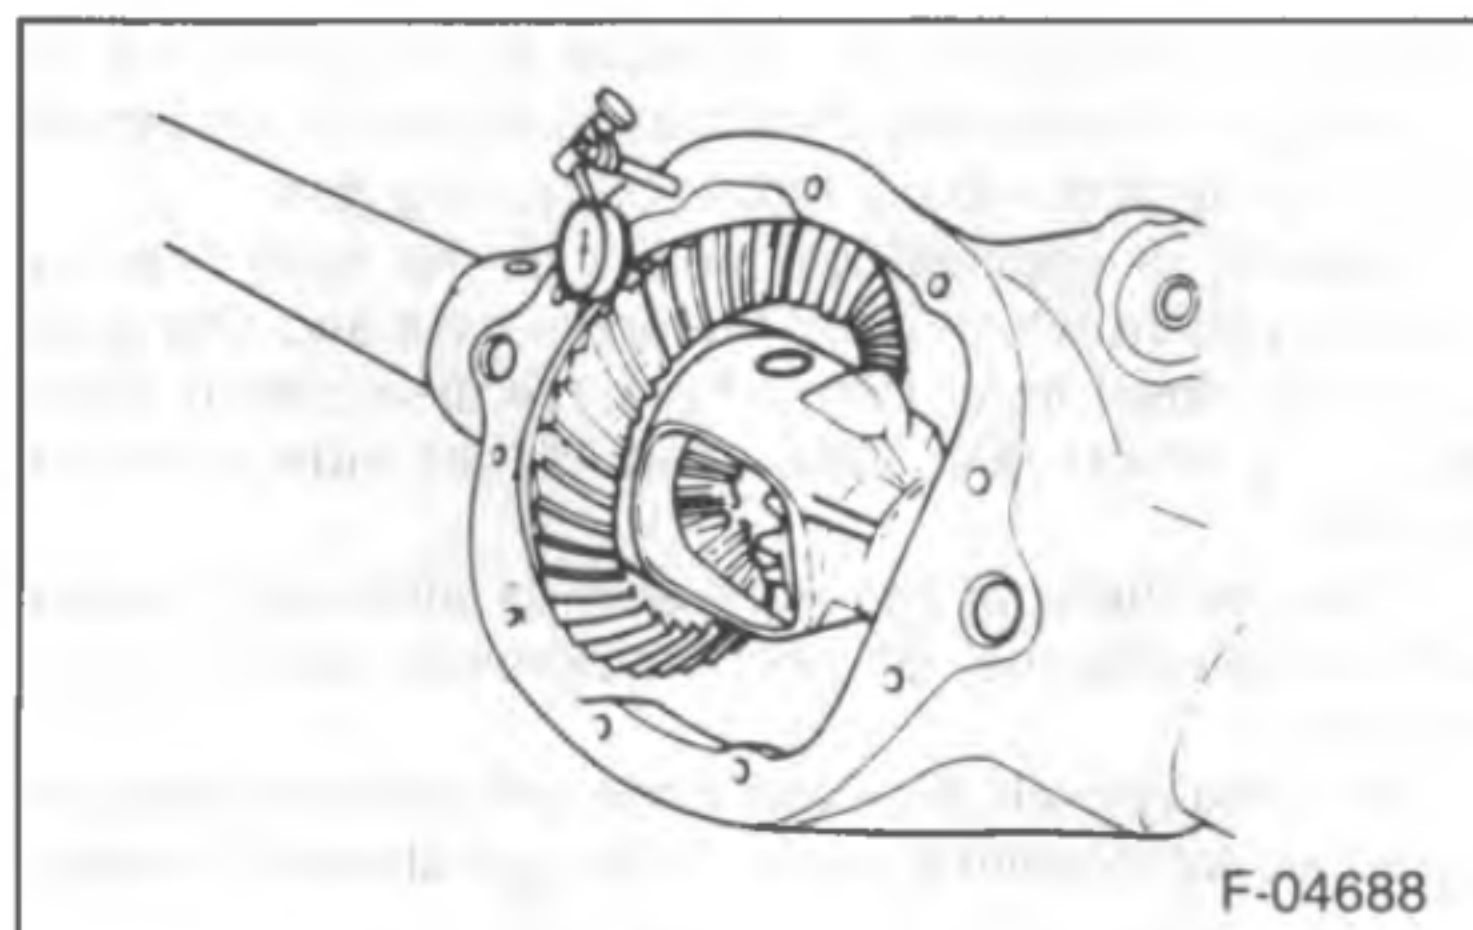

Figure 16—Checking Backlash
4. Place the indicator stem at the heel end of a tooth (figure 16).
5. Install the differential bearing caps (31) and bolts (32).